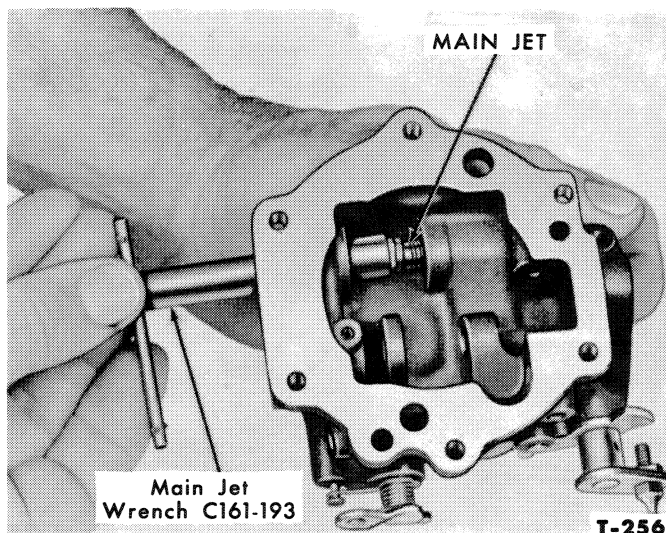

Figure 8—Removing Main Jet
11. Remove the main jet as shown in Figure 8.
1. Install the main jet as shown in Figure 8.